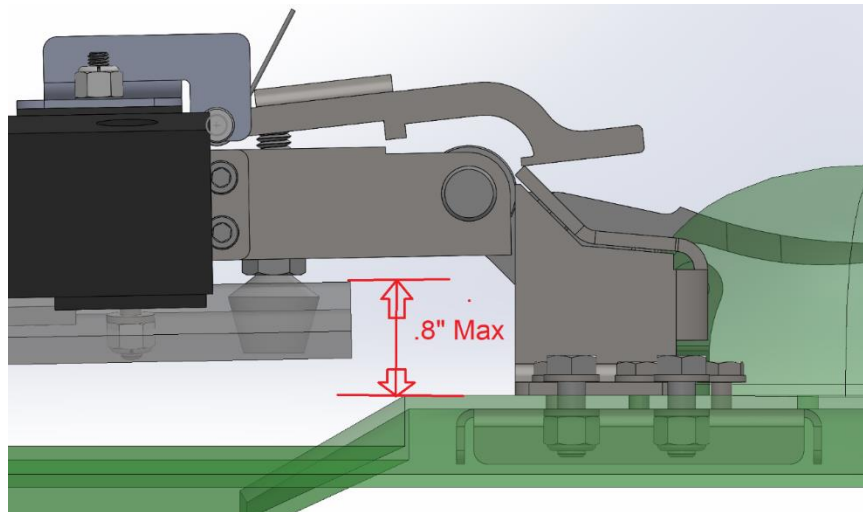

Figure 1
30. With slide rod fully retracted to open position align Latch Housing tangent to end of roller bearing, check free sitting height of door against top of hopper if door is resting max door height above top of hopper, .8” If too high trim seal or adjust frame or shims to allow door to rest at or below proper height. See Drawing 6004-0-2 Sheet 7 & Figure 1.